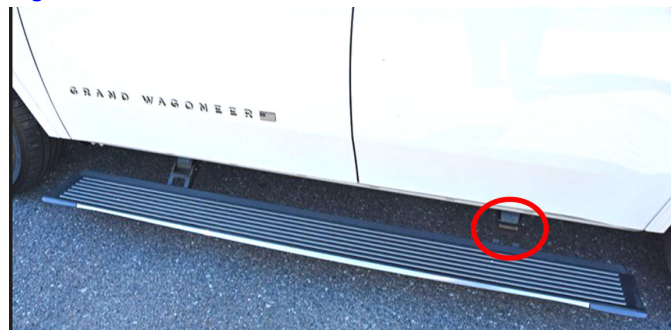

Fig. 1
2. Fully deploy the side steps Fig 1.
3. Using plain water, compressed air or a brush, clean the side step rear hinges Fig. 1.
4. Using compressed air, a heat gun or equivalent, thoroughly dry the side step rear hinges Fig. 1.